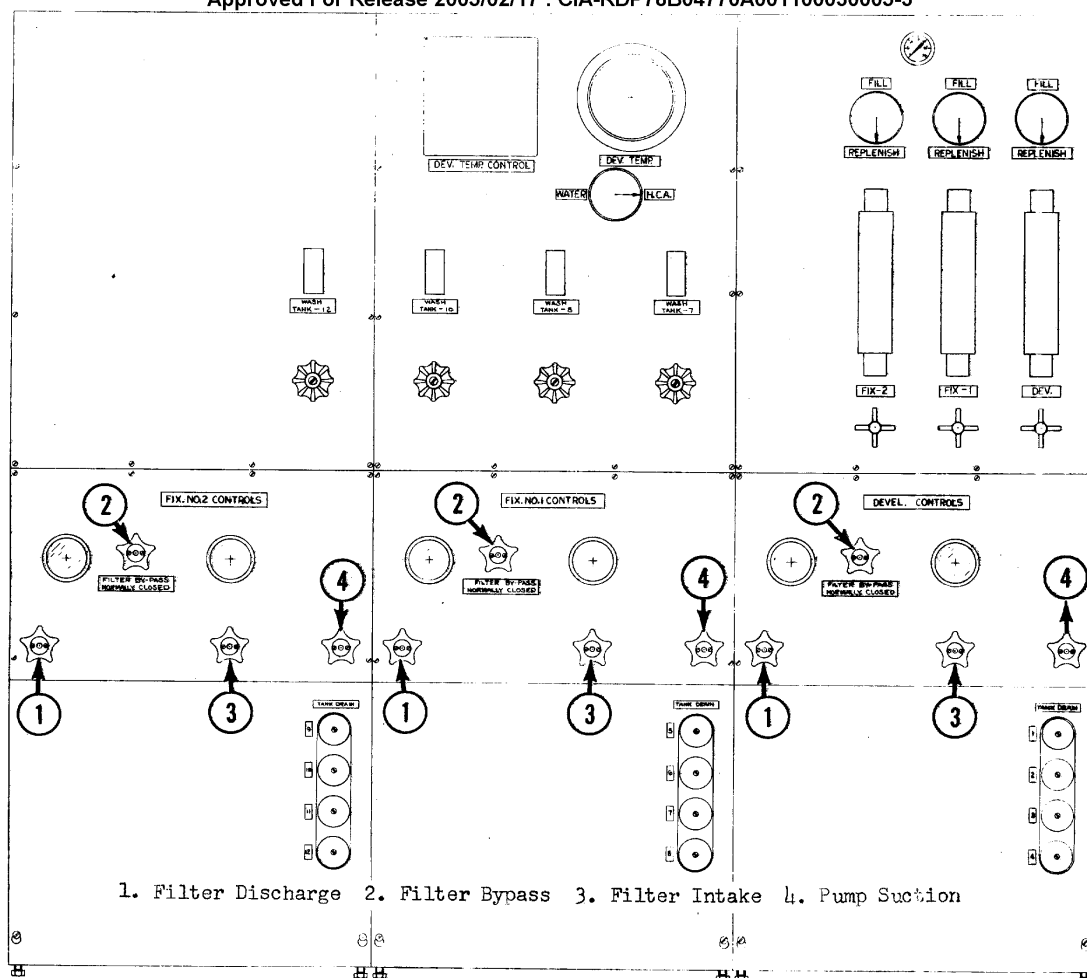
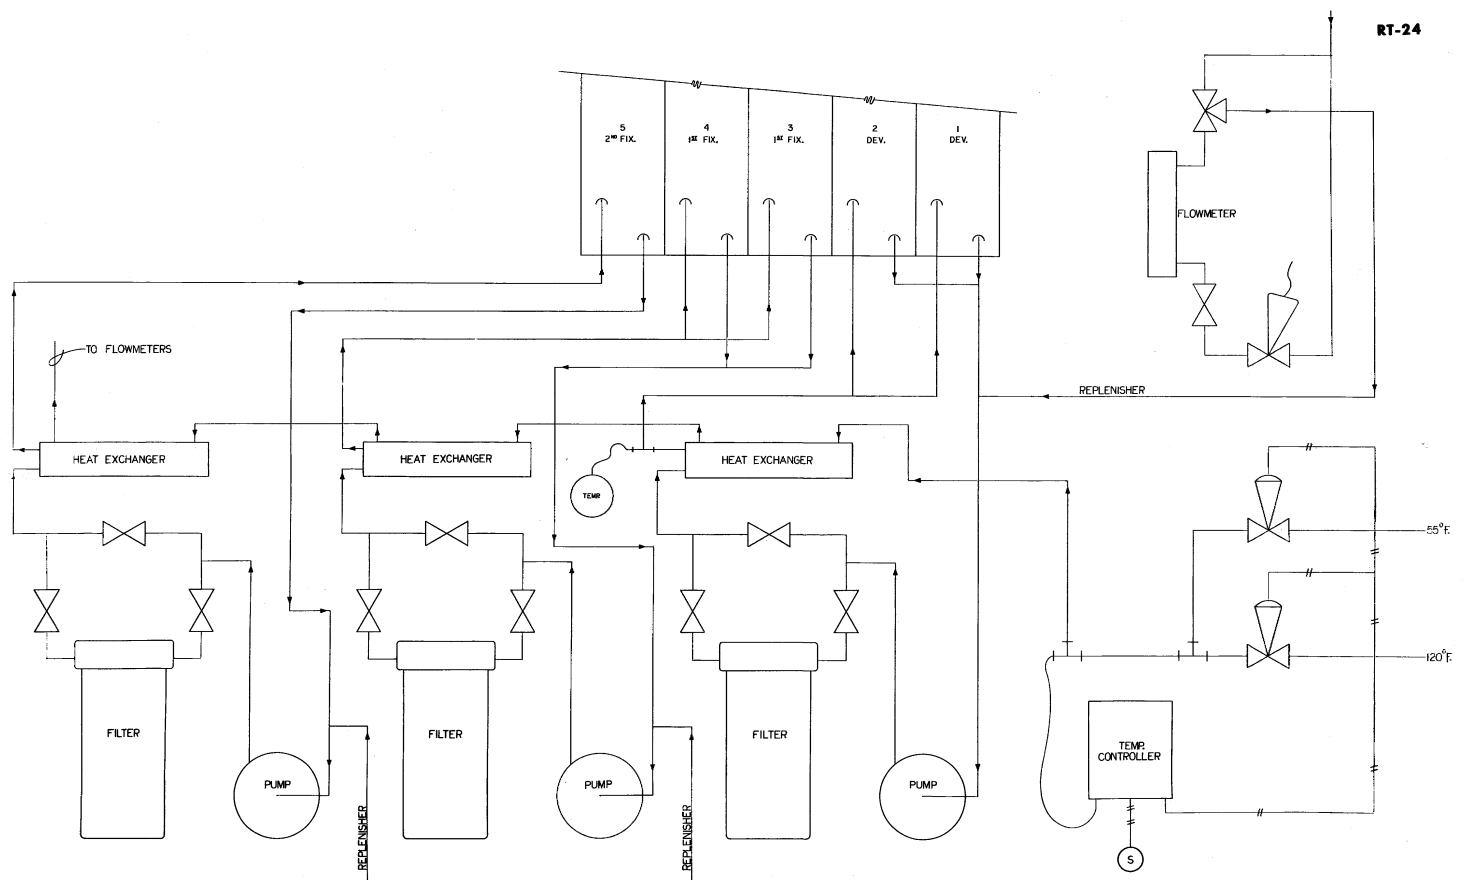

Figure 6. Solution Control Panel
Figure 7. Recirculation Systems
This panel contains various controls for metering, directing flow, tempering, and draining the solutions used in the processor. Behind the face of the panel is a cabinet enclosing the piping, pumps, filters, heat exchangers, valves, and a mixing tee for the solution system. The panel and cabinet are referred to as the solution control panel assembly. This assembly stands against the rear side of the wet tank section of the processor. The face of the panel is depicted in Figure 6.
- g. Pump Suction Valves. These valves are identified in Figure 6 as item 4. The valves are opened to expedite draining their respective recirculation systems.
- h. Filter Control Valves. There are three valves for each recirculation system filter. In addition to being called out in Figure 6, the valves are represented in the schematic in Figure 7, and they are described below:
- (1) Intake: (Item 3 in Figure 6.) The valve in the line between the filter and pump discharge. It is closed while changing filter cartridge.
- (2) Bypass: (Item 2 in Figure 6.) This valve is labeled FILTER BYPASS NORMALLY CLOSED and it is in the line bypassing the filter. Should it be necessary to change a filter cartridge while its recirculation system continues operation, this valve is opened to allow solution flow around the filter installation.
- (3) Discharge: (Item 1 in Figure 6.) The valve located in the line downstream of the filter. It is closed while changing a filter cartridge.
The three systems, one for developer and one for each fixer solution, are identical. All are shown schematically in Figure 7. In the